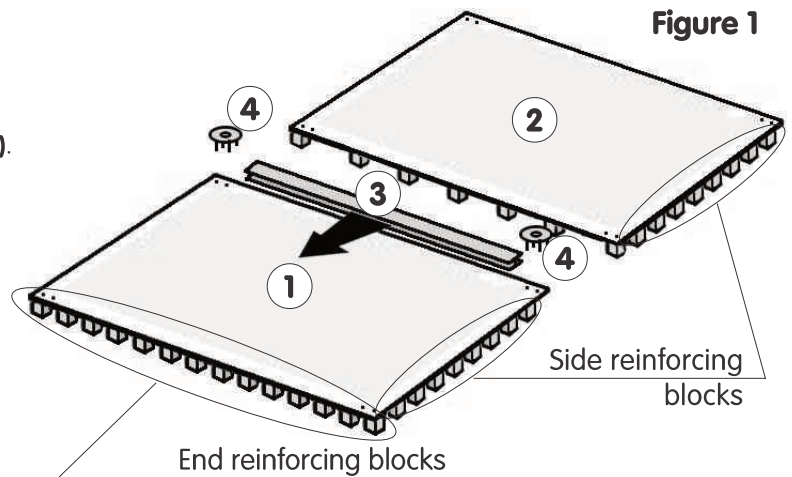

Figure 1
1 - Floor (all tracks) (see Fig. 1):
- 1 - Place the first end panel (1) on the floor, positioning the reinforcing blocks as shown in Figs. 1 & 2.
- 2 - Engage a link section (3) centered on the first end panel (1) (as shown in Fig. 1).